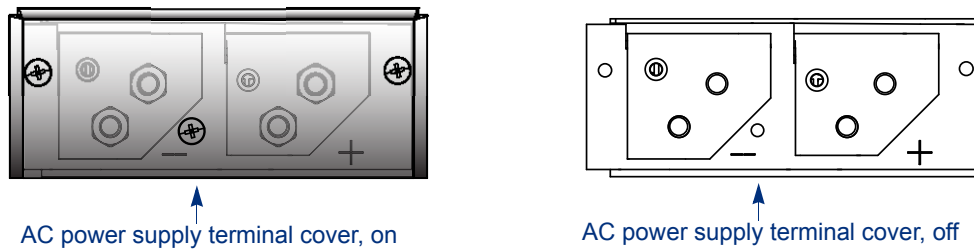
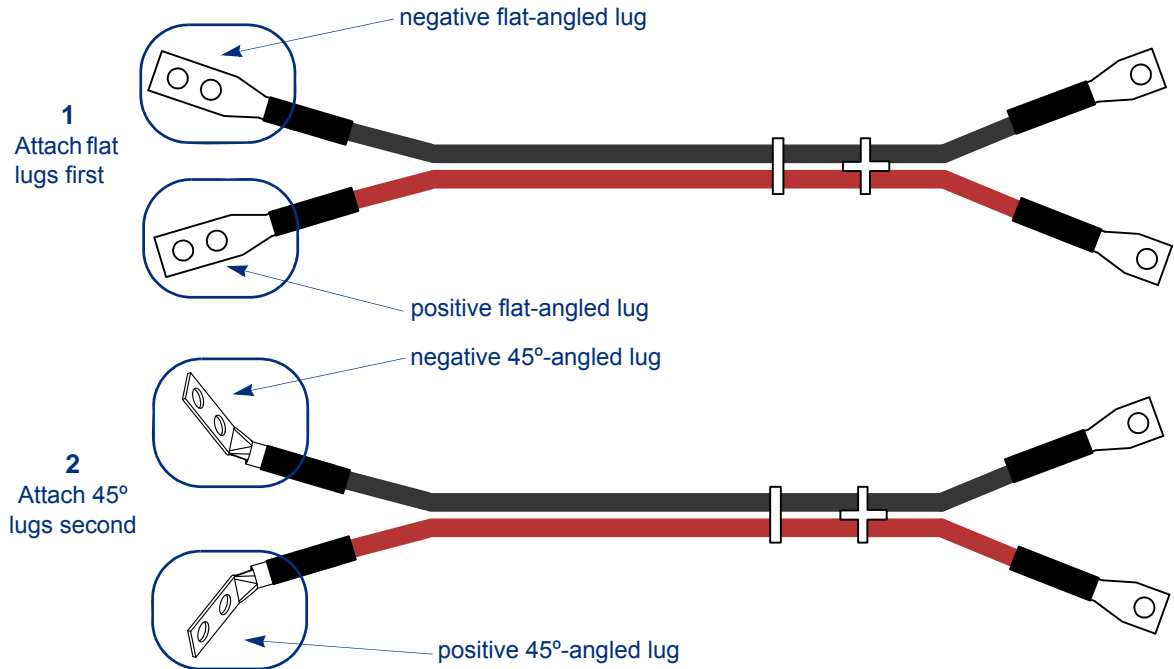

Figure 6. Terminal Cover - AC power supply
Figure 9. #4 AWG wire set, flat and 45°-angled lugs
12. Using one of the two sets of #4 AWG wiring pairs, place one negative, flat-angled lug (Figure 9) over the negative (left side) set of 2 DC connectors on the AC power supply (Figure 6).
13. From the same set of #4 AWG wires, place the positive, double-holed flat-angled lug (Figure 9) over the positive (right side) set of 2 DC connectors on the AC power supply (Figure 6).